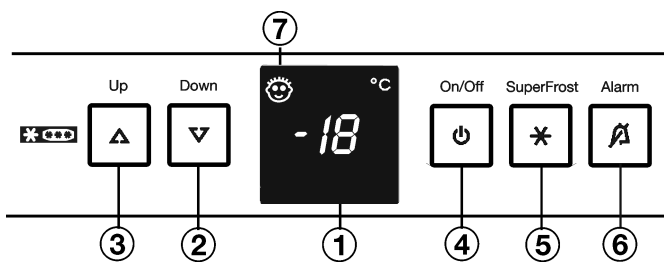

Fig. 2
- ▶ Press On/Off button *Fig. 2 (4)*.
- ▶ To activate the setting mode: press the SuperFrost button *Fig. 2 (5)* for about 5 s.
- ▶ Using the Up setting button *Fig. 2 (3)* or Down setting button, *Fig. 2 (2)*, select **h**.
- ▶ To confirm: briefly press the SuperFrost button *Fig. 2 (5)*.